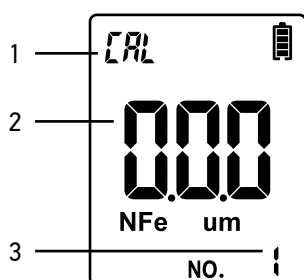

Figure 1
- Press and hold (1) for 3 seconds to enter the calibration mode (fig. 1).
- The thickness value of the respective point is displayed on the screen. If an obviously false value is displayed, use buttons (3)/(4) to correct it and take the measurement again. After measuring point 6, the calibration mode will be closed automatically.
- To calibrate one point out of the six, select it by pressing button (1).
- Press (1) to exit the calibration mode.